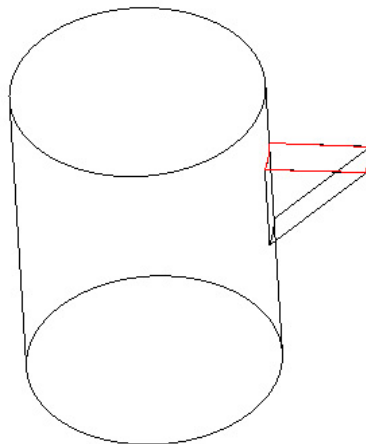

Figure 4 Sketch plane for lever head ear.
22. Select the top surface of the rib as shown in Figure 4, and open a sketch.